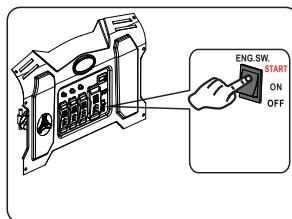

Fig 14 Electric Start
- For electric start, Push and hold the engine START/ON/OFF switch in the “START” position. Do not hold the START/ON/OFF switch in the “Start” position for more than 15 seconds. Allow 1 minute between starting attempts. (See fig 14)